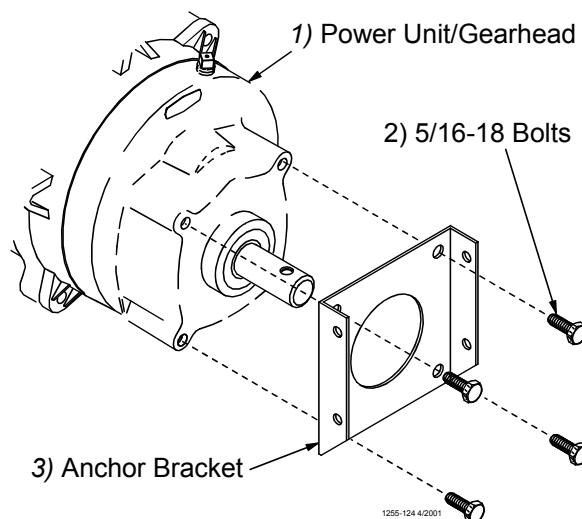

Figure 42. Assemble the Anchor Bracket to the Power Unit/Gearhead
3. Install the Anchor Bracket to the Power Unit/Gearhead, as shown in **Figure 42**, with the included 5/16-18 Bolts.